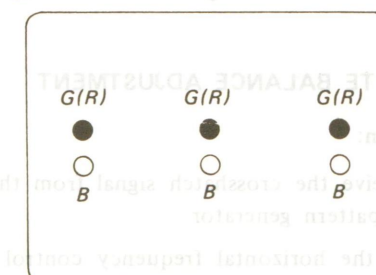

Fig. 4-11.
2. If blue and red dots do not converge with the green dots at center screen install and adjust the vertical convergence magnet (VMC) as necessary. See Fig. 4-11.